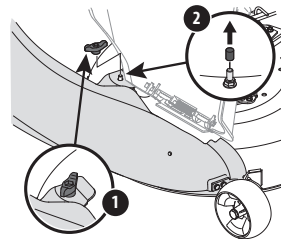

Figure 18
- Secure the boot to the deck using a wing knob (720-04122) from hardware pack 689-02364. See Figure 18.
NOTE: If present, remove the protective cap off of the mounting stud on the mowing deck as shown in the upper inset of Figure 18.